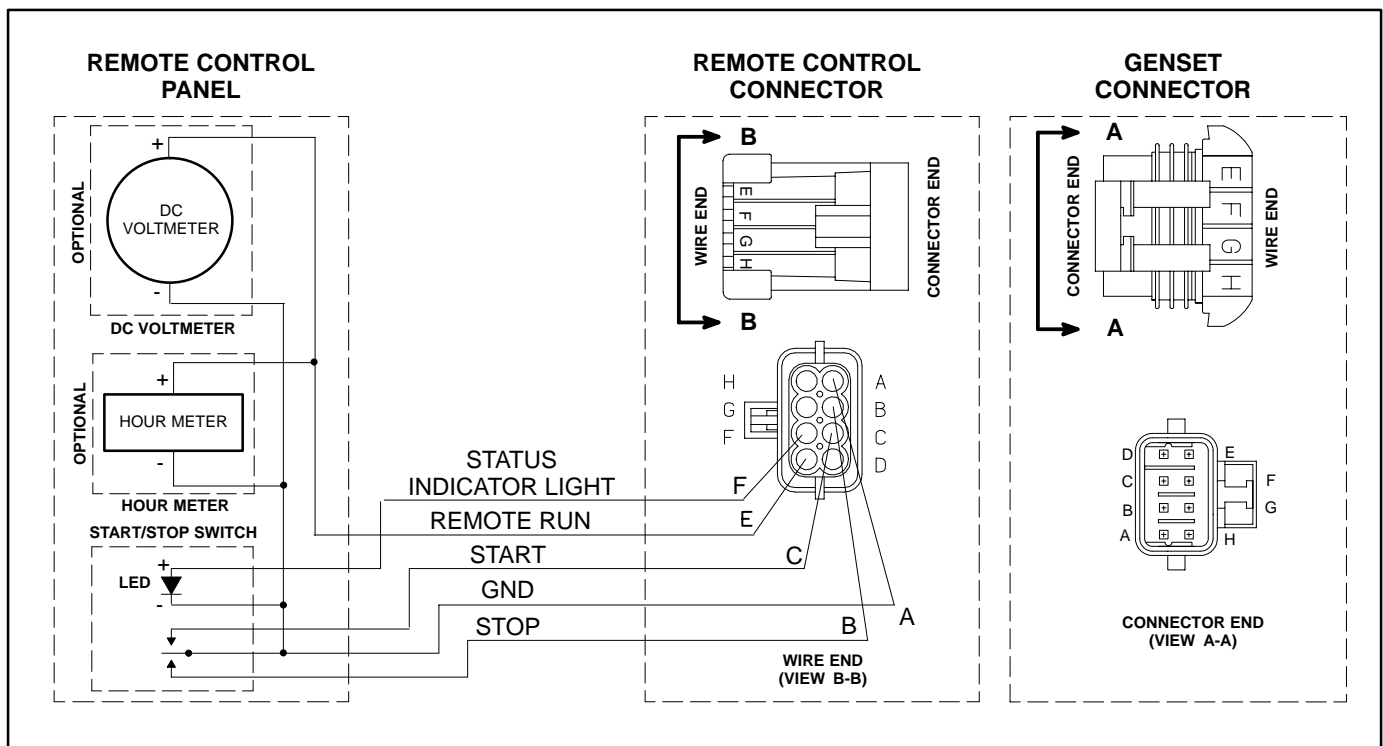

FIGURE 19. SCHEMATIC OF TYPICAL REMOTE CONTROL CONNECTIONS
1. Push the remote control wire harness connector through the entrance hole in the side of the genset housing and snap it together with the genset connector. If the wiring harness is made up by others, insulated 18 AWG copper conductors should be used for distances up to 30 feet (9 metres) and heavier gauge conductors for distances that are greater. Use flexible sheathing to protect remote control wiring. Figure 19 is a schematic of typical remote control connections. It identifies the function of each connector pin number. The remote panel end of each lead should be marked to identify the connector pin number.